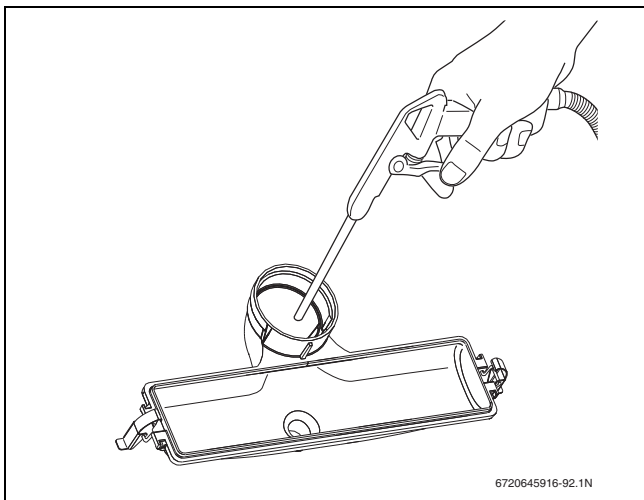

Fig. 94 Cleaning the condensate collector
- ▶ Clean the condensate collector mechanically (using compressed air or a soft brush) and rinse it with clean water (→ fig. 94).